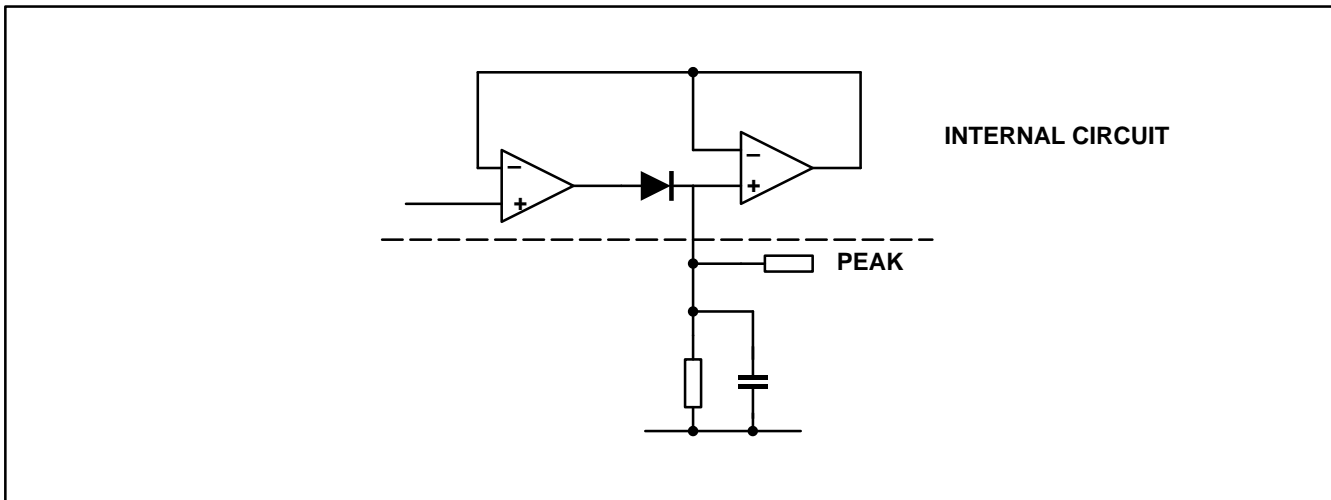

Fig. 5 Peak detector output
2. For coding schemes with d.c. content (e.g. low duty cycle pulse width modulation) an active peak detector is included. The output at pin PEAK represents the peak level at the data filter output (as shown in Fig.5). An external RC time constant at this pin determines the maximum attack and decay times of the peak detector. Typical values for the leakage and diode current source capability are shown in the specifications.